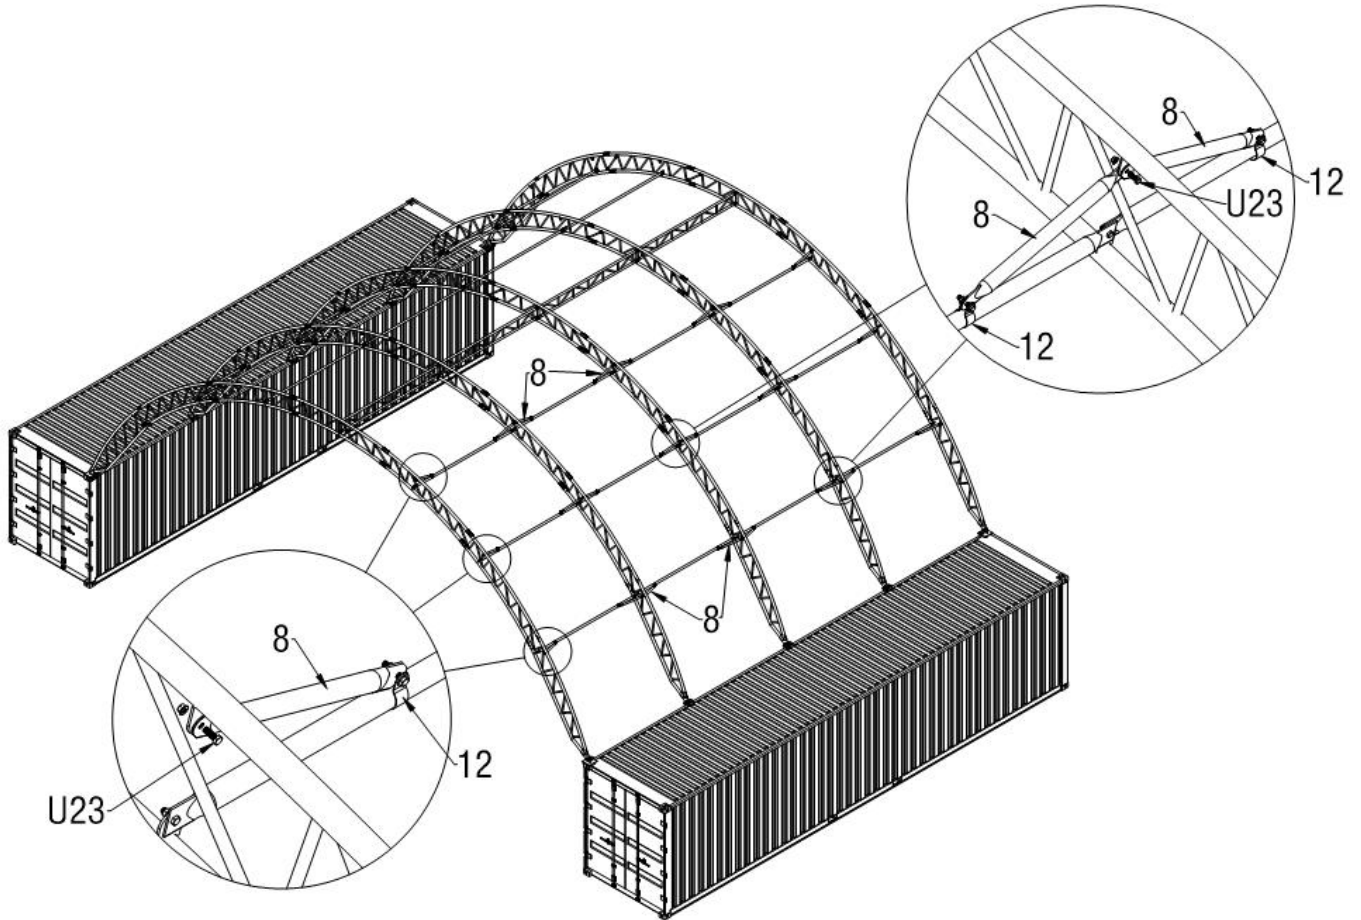

Figure 9
2.5. Connect the Diagonal Support Tube For purlin (Part no.8) to the arch and purlin (Part no.7) by bolt M10x30mm (Part no.U23) and clips (Part no.12) as below Figure 9 shows.